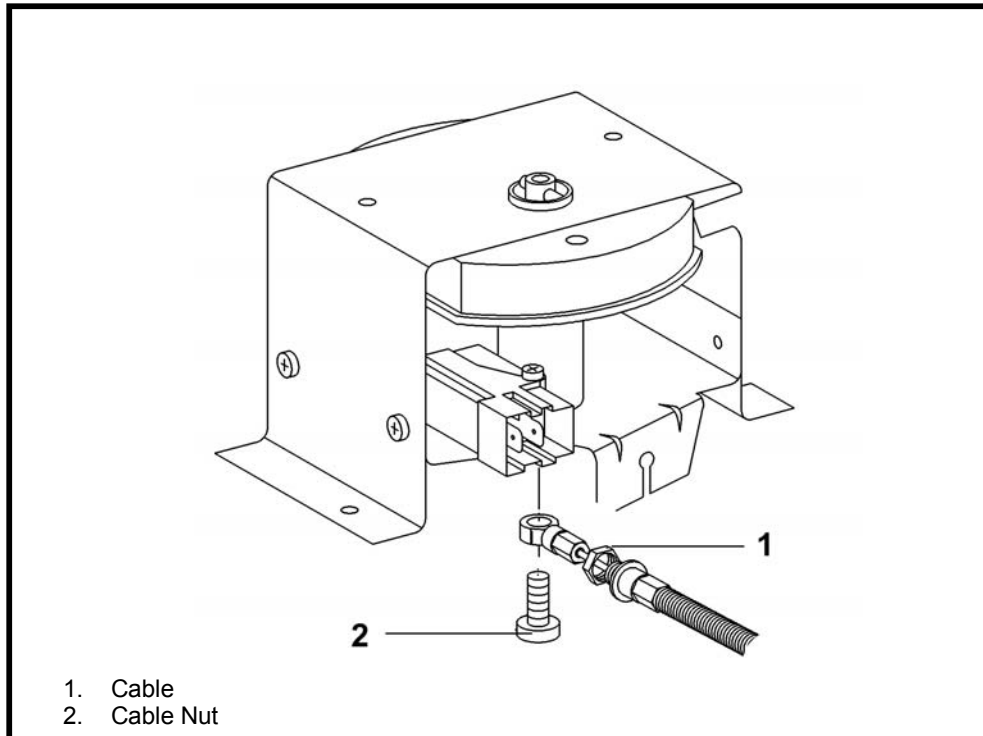

Figure 5-11: Door Latch and Cable
6. Refer to Figure 5-11. Loosen the Cable Nut (Item1).
7. Refer to Figure 5-11. Loosen the Cable Nut (Item 1).